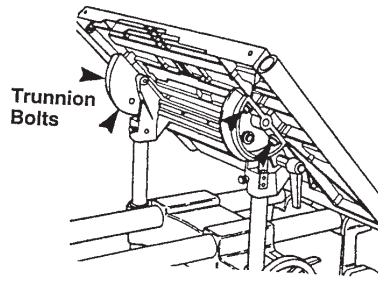
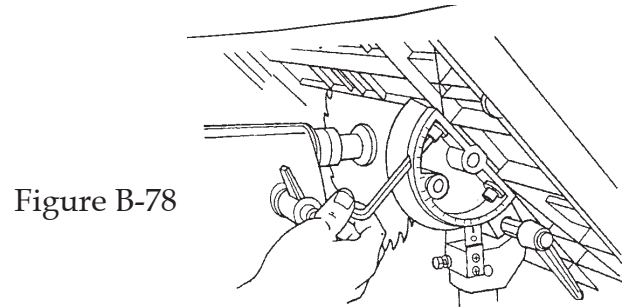

Figure B-77
Figure B-78
- Use a 5/16" Allen wrench to loosen all four bolts (147) which hold the worktable to the trunnions, as pointed out in Figure B-77. Loosen the bolts only enough to allow movement with firm pressure. See Figure B-78.